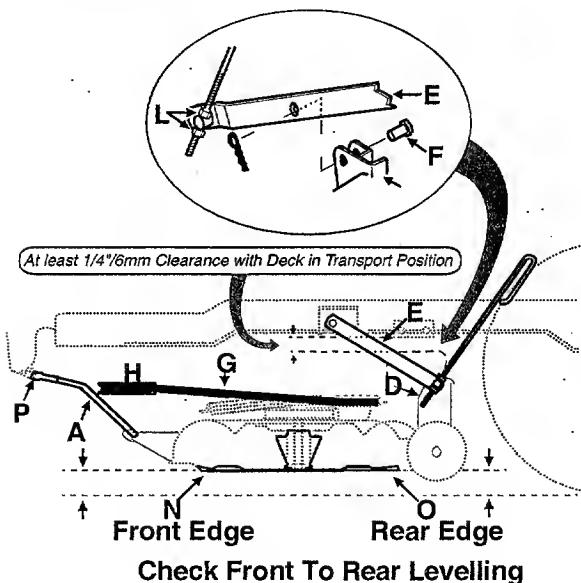
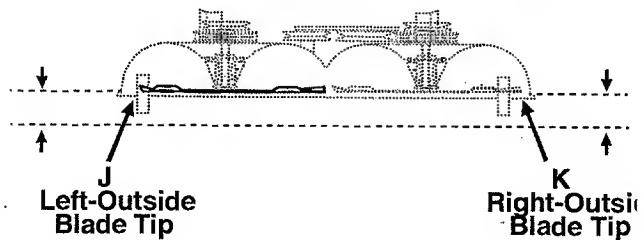

Figure 3
Figure 4
- Set the clearance between the lift bracket (D, Figure 3) and the frame/frame stop to 1/4" or 6mm. Adjust the position of nuts (L) to set the clearance.
- Rotate the left blade so it is aligned side-to-side with the tractor (Fig. 4). Measure the distance from the outside blade tip (J) to the ground. Rotate the right blade so it is aligned side-to-side with the tractor. Measure the distance from the outside blade tip (K) to the ground. These distances should be equal to each other and to the measurements taken in step 4.
- Adjust the position of the nuts (L, Fig. 4) to raise or lower each lift link until the unit is level. readjust the lift rods (A) needed.
- When level, tighten the nuts (L) firmly against the swivel block.
- Turn the blades so that one is aligned front to rear with the tractor. Measure the distance from the front edge of the blade (N, Fig. 3) to the ground. Measure the distance from the rear edge of the blade (O) to the ground. Both distances should be equal.
- To level, adjust the length of the front lift rods (A; Fig. 3) by turning the rod end (P) on each front lift rod, as required.